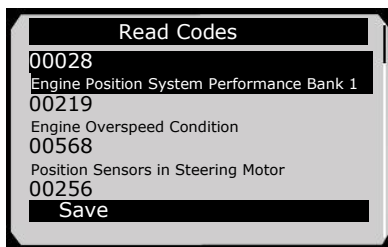

Figure 6.7
10. View DTCs and their definitions on screen.(Figure 6.7)